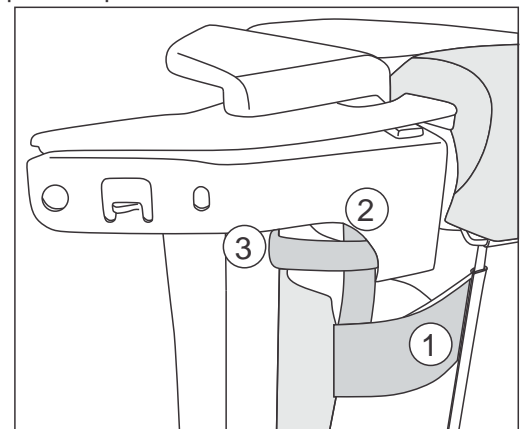

Fig. 6.4
6.4. Final attachment of 3 tapes in the corner of the backrest is shown in Fig 6.4. Repeat Steps 6.1-6.4 for other corner.